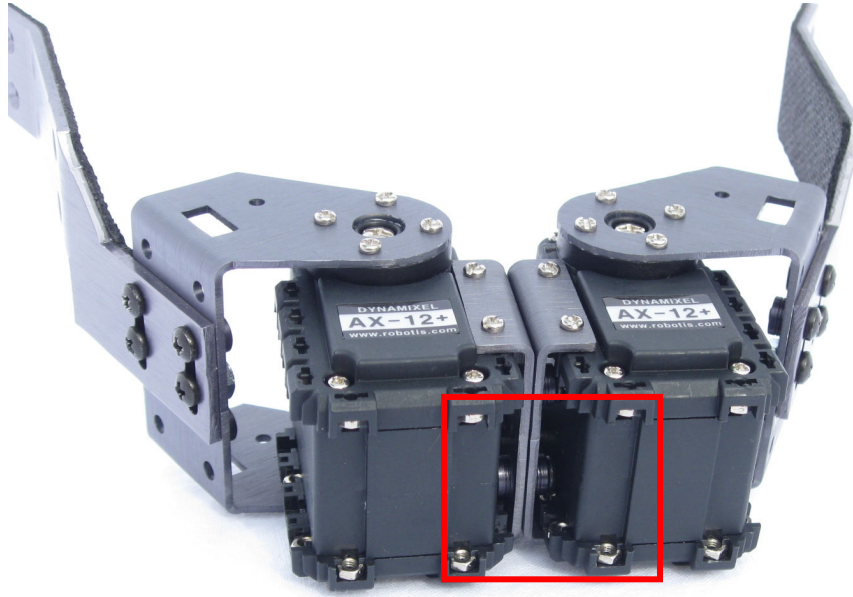

Figure 8
8. Install (4) 2mm nuts into the bottom, inside of each of the AX-12/18's servos as shown in figure 8.